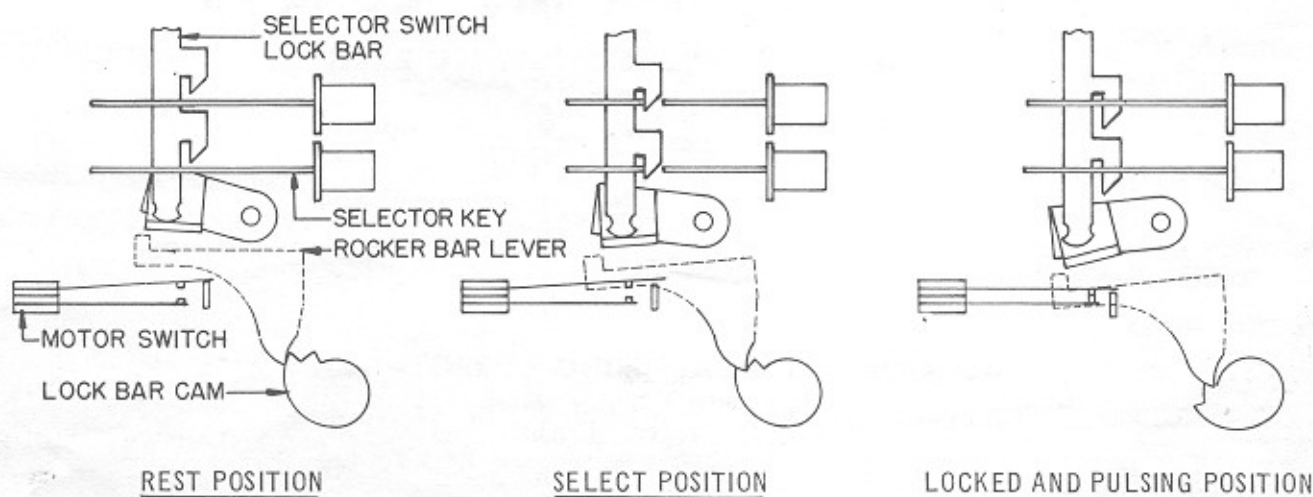

Fig. 1
There are three important positions of the cam cluster for each cycle, namely, the Rest Position, Select Position, and the Locked and Pulsing position. These positions are shown in Fig. 1.
1. Turn the gear motor manually until the rocker bar lever falls into the first notch of the cam farthest away from the contact biscuit assembly. (See "select position" of Fig. 1).
The selector switch lock bar has three positions which correspond to the three steps on the lock bar cam of the cam cluster. (See Fig. 1). In "rest position" (no credit) the selector keys are free to move in and out. In this position, the rocker bar lever engages the selector lock bar, so that the selector keys move midway in the openings of the lock bar. In "select position" (credit established) the rocker bar lever engages the selector lock bar so that the selector keys strike midway on the angle portion of the lock bar. The selector keys when fully depressed are then latched behind the lock bar. In "locked and pulse position" the rocker bar lever will lower the lock bar, and the selector keys strike the top portion of the lock bar. This will not allow any keys to be depressed while the contact wiper arm rotates, and holds the latched key in locked position.